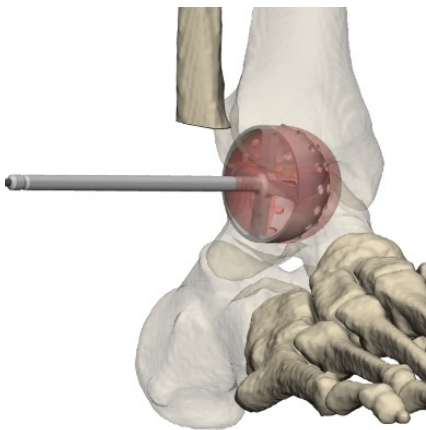

Fig. 4.5
- 4.5.** If using a convex reamer in conjunction with a Half Pill implant, place 1.6mm guidewire in the center of the desired distal bone to be reamed. Ream using fluoroscopy to confirm adequate depth and size of the reamer. (fig. 4.5).